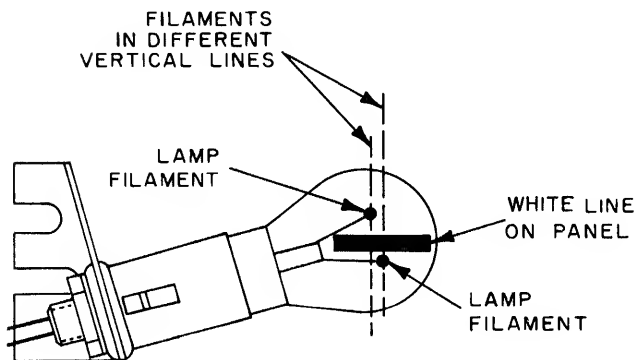

Figure 5-4. Exciter Lamp Vertical Positioning
1. Two lamp filaments straddle white line located on front panel directly behind lamp (see Figure 5-4).